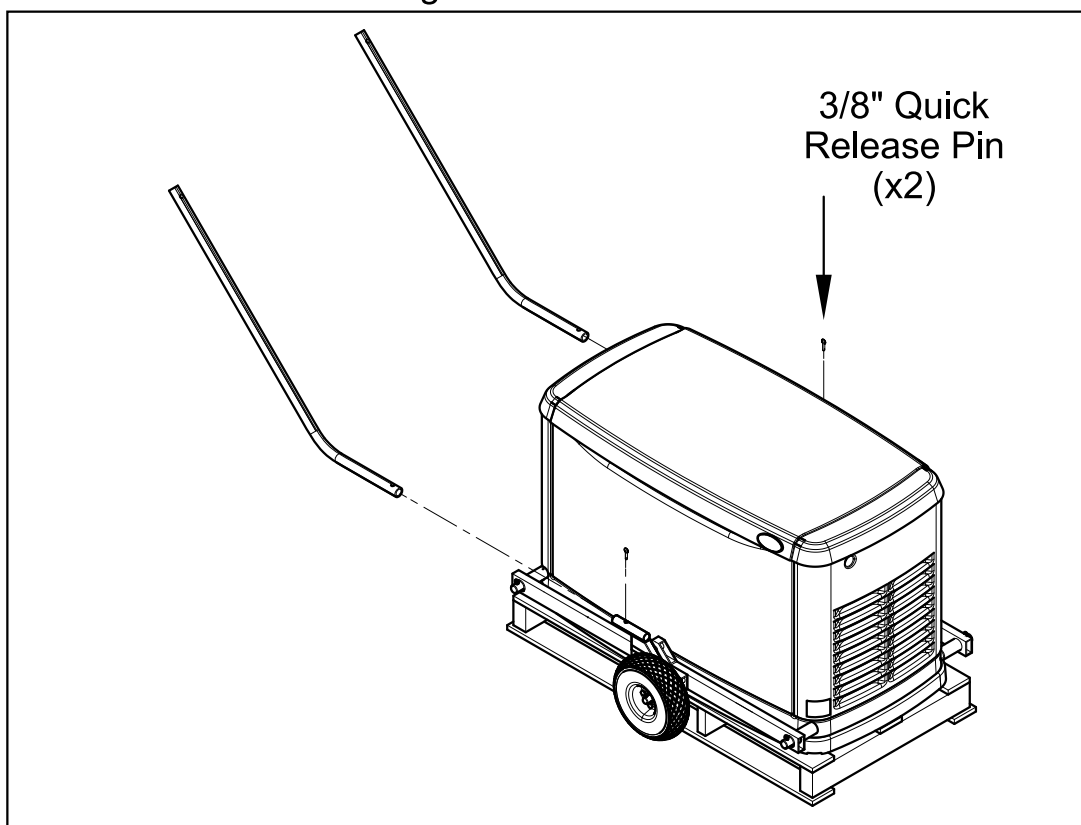

Figure 4
Step 4.) Attach side rail handles. See figure 4.